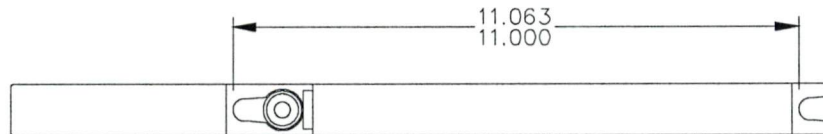

Figure 5.1 – Critical Keyway Dimensions (Aft Beam)
- b) Critical keyway dimensions on the aft beam are shown in Figure 5.1. The forward beam does not have a critical dimension. Attempt to insert 15/32 drill shank into bottom end of slots. If drill can be inserted, slot is worn beyond limit.